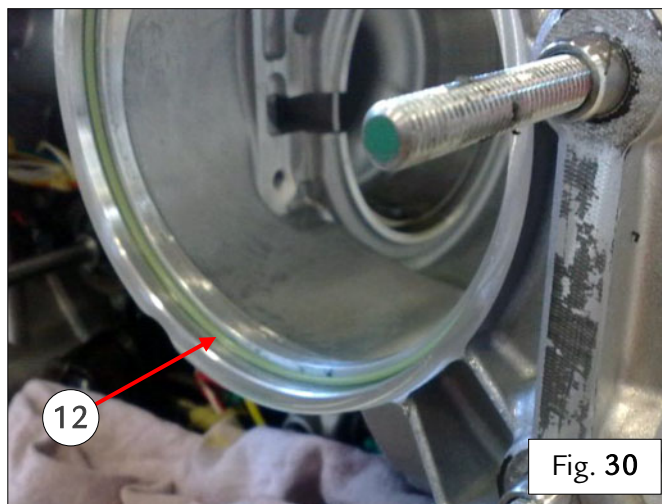

Fig. 30
- Remove the seal (12) from the differential housing on the side in contact with the interface plate – Fig. 30.